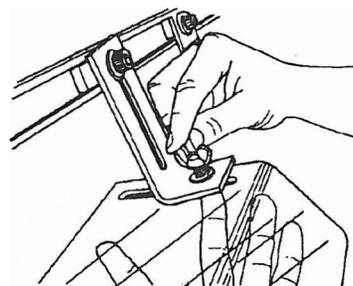

Fig. A-32
**26.** Attach the guard to the bracket with another flat washer (28) and a wing nut (27), as demonstrated in Fig. A-32.